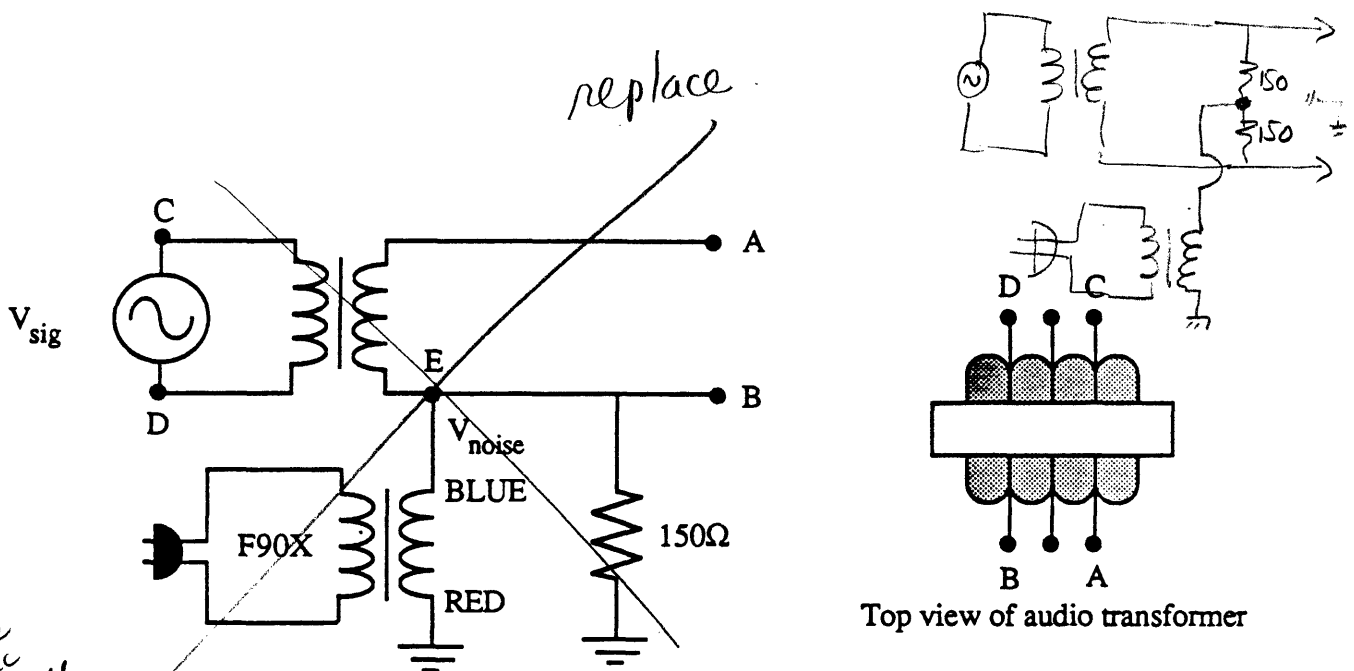

Figure 4 - Differential and Common Mode signal circuit.
- (3) Connect your DMM to point E. Connect points A and B with a jumper. Adjust R7 until your output voltage is exactly zero. Your amplifier is now ready to test.
- (4) Build the signal producing circuit shown in Figure 4 on your protoboard. The points labeled A and B will connect to the correspondingly labeled points of your instrumentation amplifier. Do NOT disassemble your instrumentation amplifier circuit. The upper transformer is your audio transformer. The second transformer is your familiar power transformer. The function of the audio transformer is to allow the signal generator output to be added in series to the output of the power transformer. Do NOT plug the power transformer in yet.
- (5) Connect the signal generator output to point C. The other side of the transformer primary should be connected to your station COM. Adjust the signal generator output to 0.2V_{p-p}, 0 volts DC at 1 KHz. Connect point A of your signal circuit to point A of your instrumentation amplifier. Connect point B of your signal circuit to point B of your instrumentation amplifier.
- (6) Connect your scope CH1 input to point A, connect the scope CH2 input to point B and record the waveform you see in Table 7.3. The signals will look almost identical. Set your scope mode to ADD and the INV CH2 switch ~~out~~. You should now see the signal corresponding to "A-B", the differential signal which the amplifier will see. Vary the generator output—your signal on the scope should follow the change in generator output. Measure and record in Table 7.4 the peak-peak voltage of the "differential" signal you see between points A and B. This is the input signal to your amplifier.
- (7) Disconnect the output of your signal generator from point C. Plug in the power transformer. You are now inserting a signal in series with points A and B—a common mode signal. Record the value of any 60Hz signal you see between A and B. record these in Table 7.4
- (8) Unplug the power transformer. Reconnect the signal generator to point A.
- (9) Remove the CH1 probe from point A. Reconnect it to point E. Change the mode switch to CH1. You are now looking at the amplifier output. Record the peak-peak ac voltage in Table 7.5.
- (10) Disconnect the signal generator from point C. Plug in the power transformer. Record any 60Hz output voltage (peak-peak) you see at point E in Table 7.5.
- (d) Explain the function of the two transformers in the signal circuit of Figure 4.